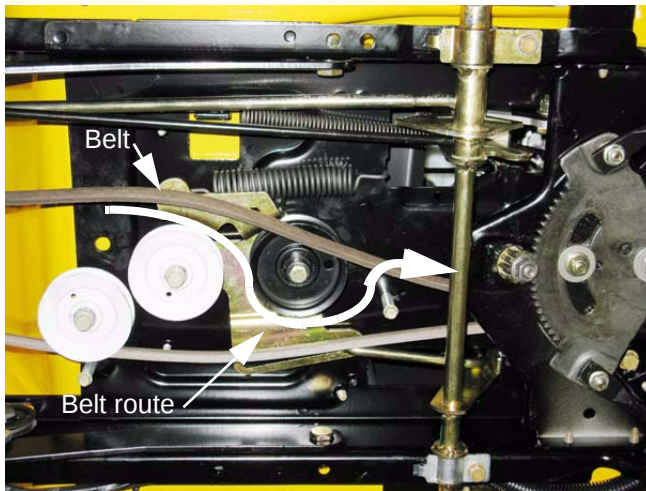

Figure 5.49
6. Work the belt out of the two pulleys on the belt tensioner bracket. See Figure 5.49.